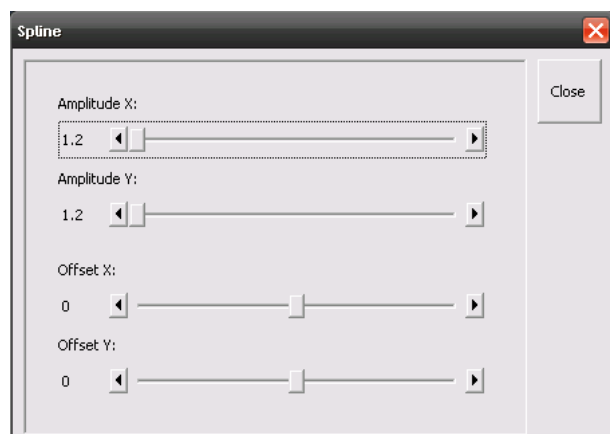

Fig. 18 Spline window
- The **Spline** window appears on the screen (see Fig. 18).